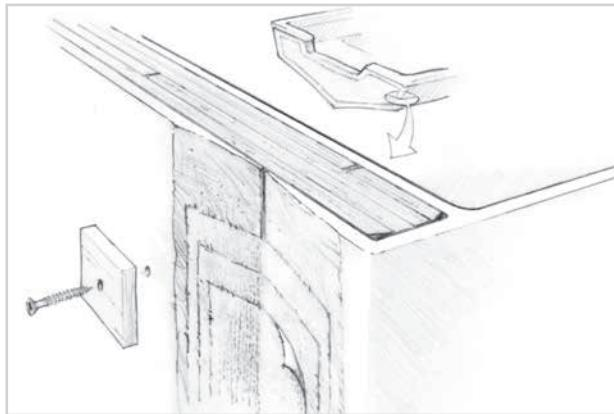

Figure 5-11 Grind a minimum 12-to-1 bevel on both sides of the joint. Laminate a repair patch over the joint to restore skin continuity.
4. Grind a minimum 12-to-1 bevel on both sides of the joint. The outside edge of the bevel should be short of the corner, as described earlier in Section 5.3.1—Planning the repair. Lamine a repair patch over the joint to restore skin continuity (Figure 5-11). The bevel will provide a recessed bonding area for the application of fiberglass fabric and allow the patch to be faired flush with the surface. The procedure for patching the joint are the same as repairing damaged skins. Follow the procedure described in Section 4.3. Limit the patch and finishing to the transom side of the corners.